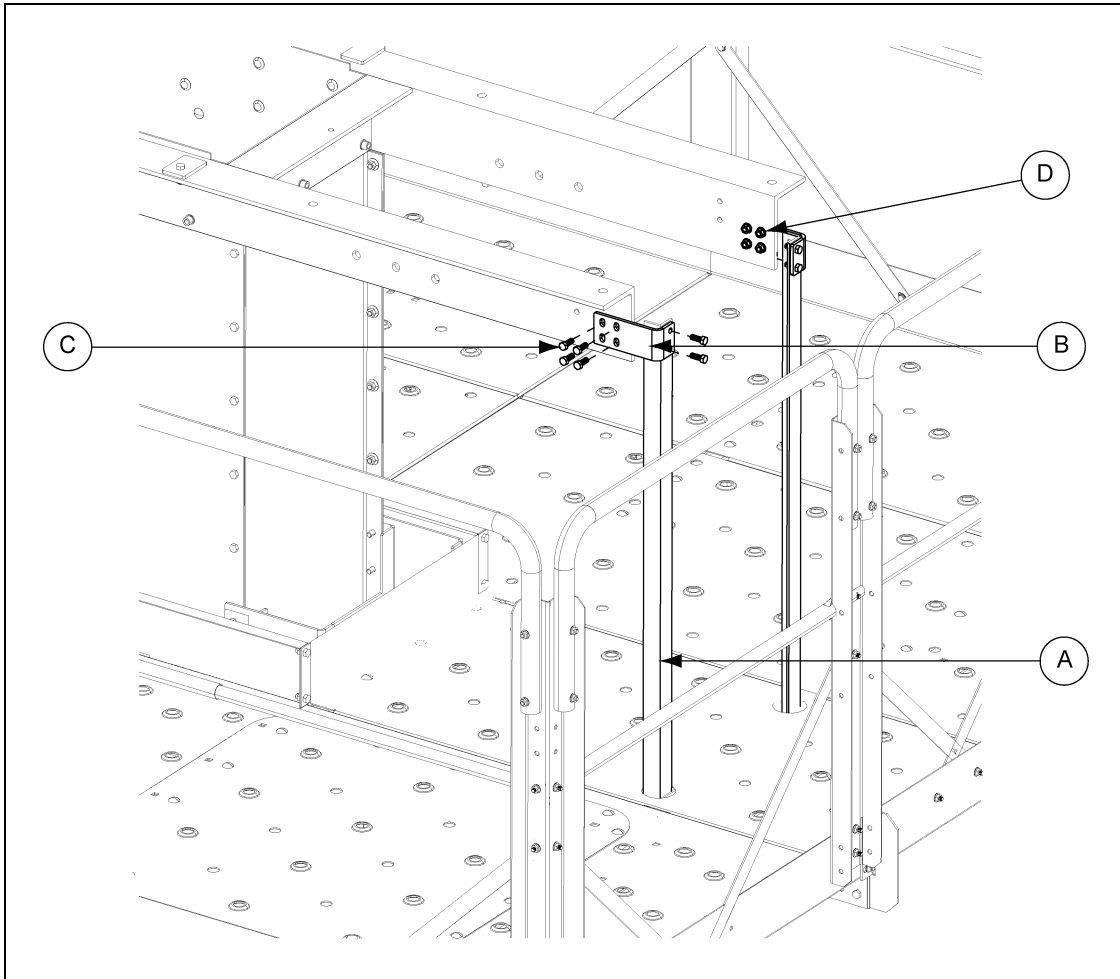

Figure 10A 30" Bearing Support Clips and Angles
1. Connect two (2) HP head bearing support brackets (HP30HBE) (B) as shown to the lower head using 3/8" x 1" bolts (S-7469) (C) and nuts (S-3611) (D).
2. Attach two (2) head bearing angle supports (HP30HBS) (A) to the head bearing support brackets (HP30HBE) (B) and cross deck support channels with 3/8" x 1" bolts (S-7469) (C) and nuts (S-3611) (D). *(See Figure 10A.)*